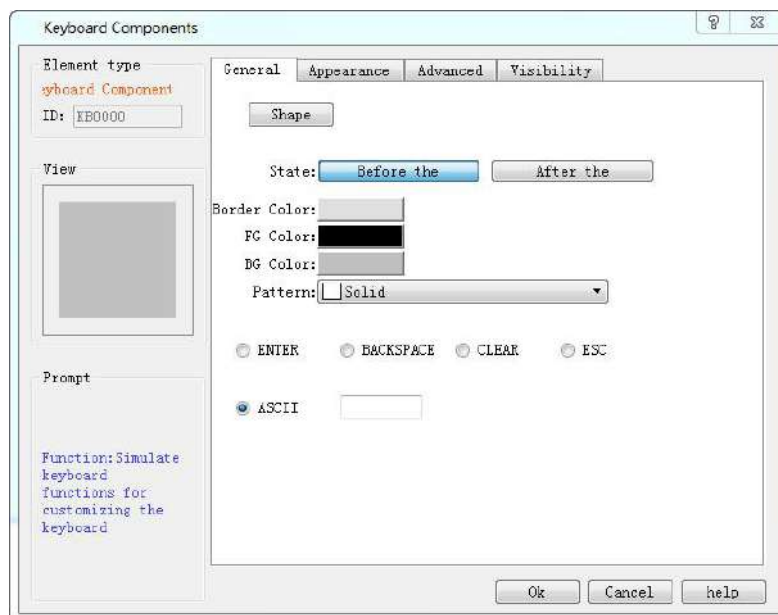

Figure 4-123 Keyboard General Page dialog box
1. Keyboard: This control is employed to customize the keyboard, composed of each button on the keyboard. The icon of the control on the toolbar is: ; Click on the button, then a dialog box shown in Figure 4-123 will pop up.